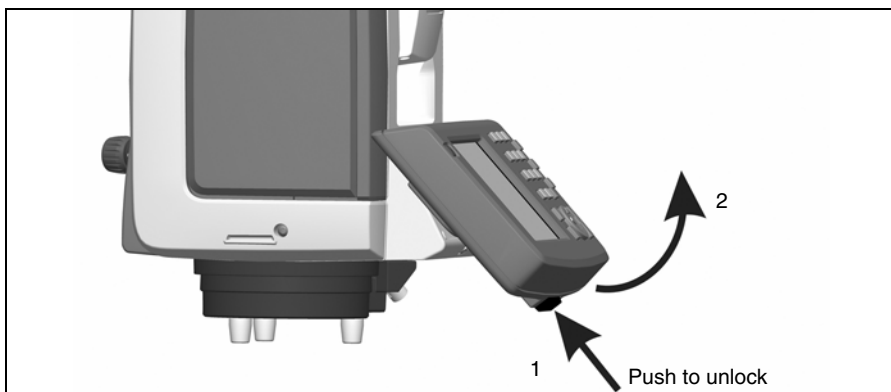

Figure 4.41 Detaching the Trimble CU
1. Push the lock release button on the bottom of the Trimble CU, Figure 4.41 (1)
2. Lift the bottom of the Trimble CU away from the instrument, Figure 4.41 (2)